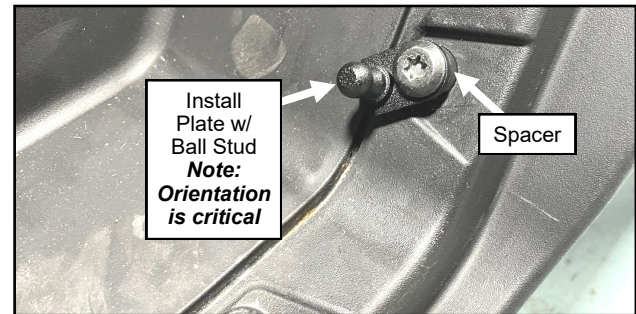

Fig. 1.2 (Install Vehicle Side Ball Stud)
- 1.2 Per figure 1.2, install spacer and door side ball stud using hardware removed on step 1.1. It is important to orient the plate down and toward center of vehicle as shown. Install on both the left and right side of the vehicle.